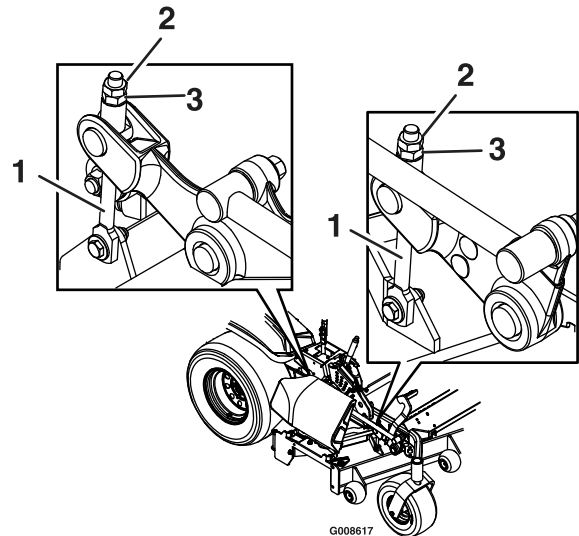

Figure 27
10. Loosen the jam nuts on the top of each deck link. Fine tune the adjuster on the front deck lift assembly by turning it to get 3 inch (7.6 mm) height (see Figure 27).